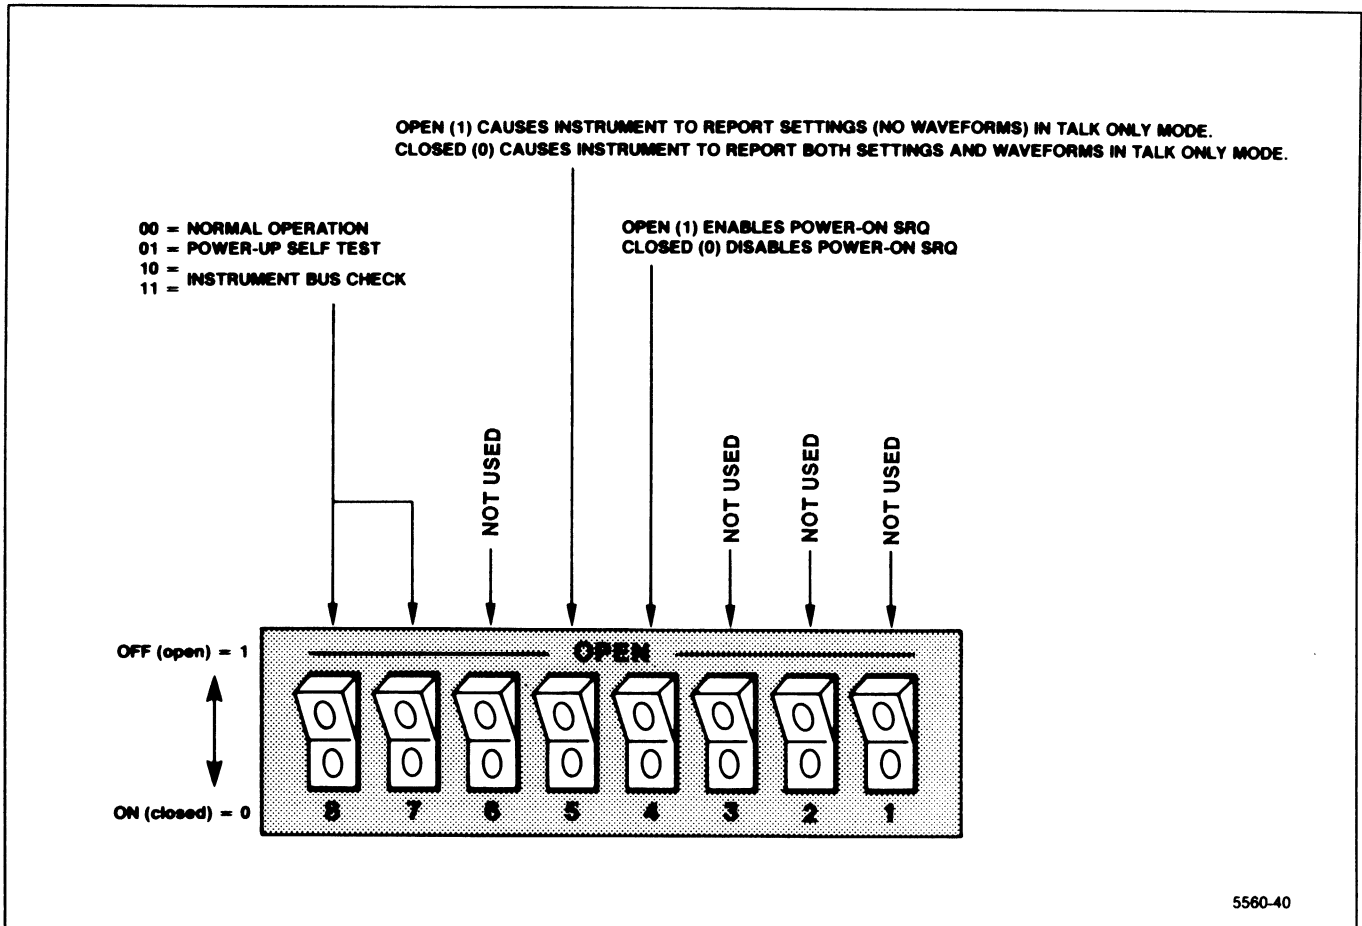

Figure 7-29. Options switch bank on the Memory board.
**Options.** The Options Switch settings tell the micro-computer which instrument options are installed so that the appropriate firmware is used. It also enables diagnostic checks and allows reporting settings over the GPIB in Talk Only mode. Figure 7-29 shows the switch settings. See the Maintenance section for more information about using the switches.